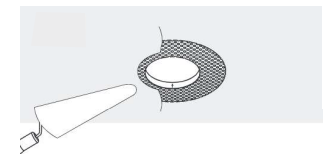

Figure 3
4. Plaster over the plaster frame ensuring not to apply too much plaster to fill beyond the raised rim shown in figure 3.